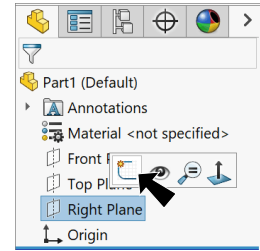

Fig. 1
Step 2. Click **Right Plane**  in the Feature Manager and click **Sketch**  on the context toolbar, **Fig. 1**.
under Chamfer Type, **Fig. 1**